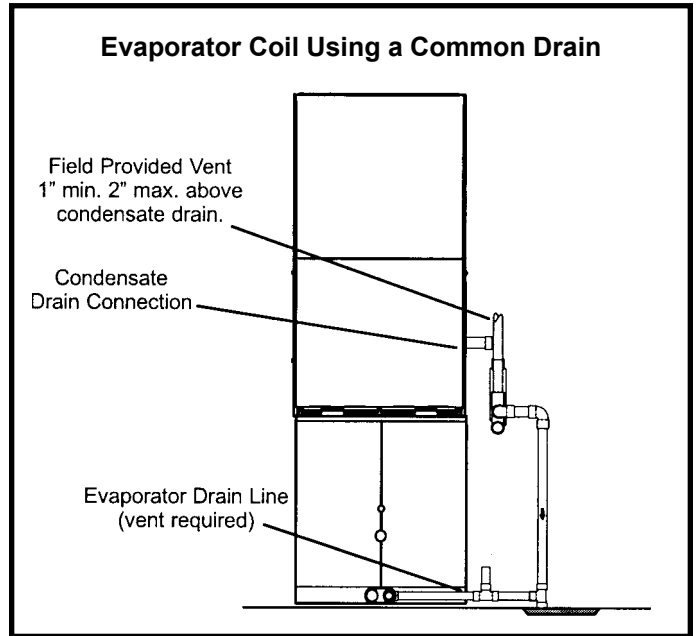
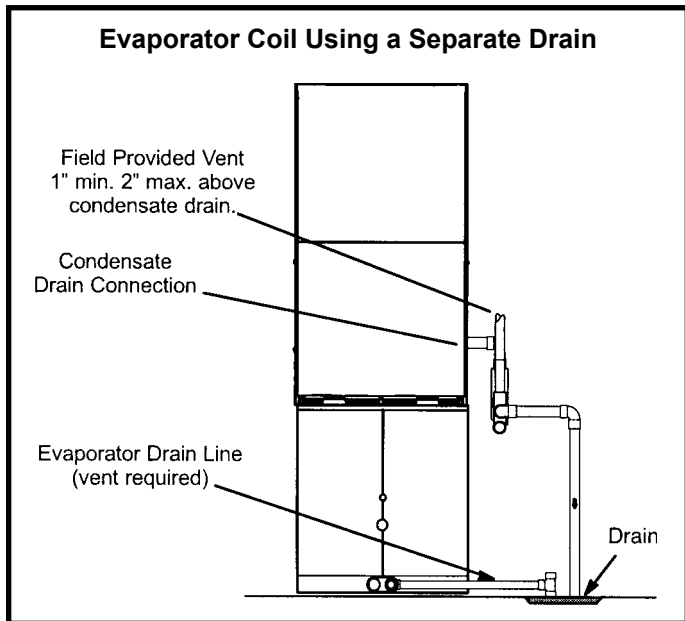

Figure 47
Figure 46
5. Figure 46 shows the furnace and evaporator coil using a separate drain. If necessary, the condensate line from the furnace and evaporator coil can drain together. See Figure 47. The field provided vent must be a minimum 1" to a maximum 2" length above the condensated drain outlet connection.